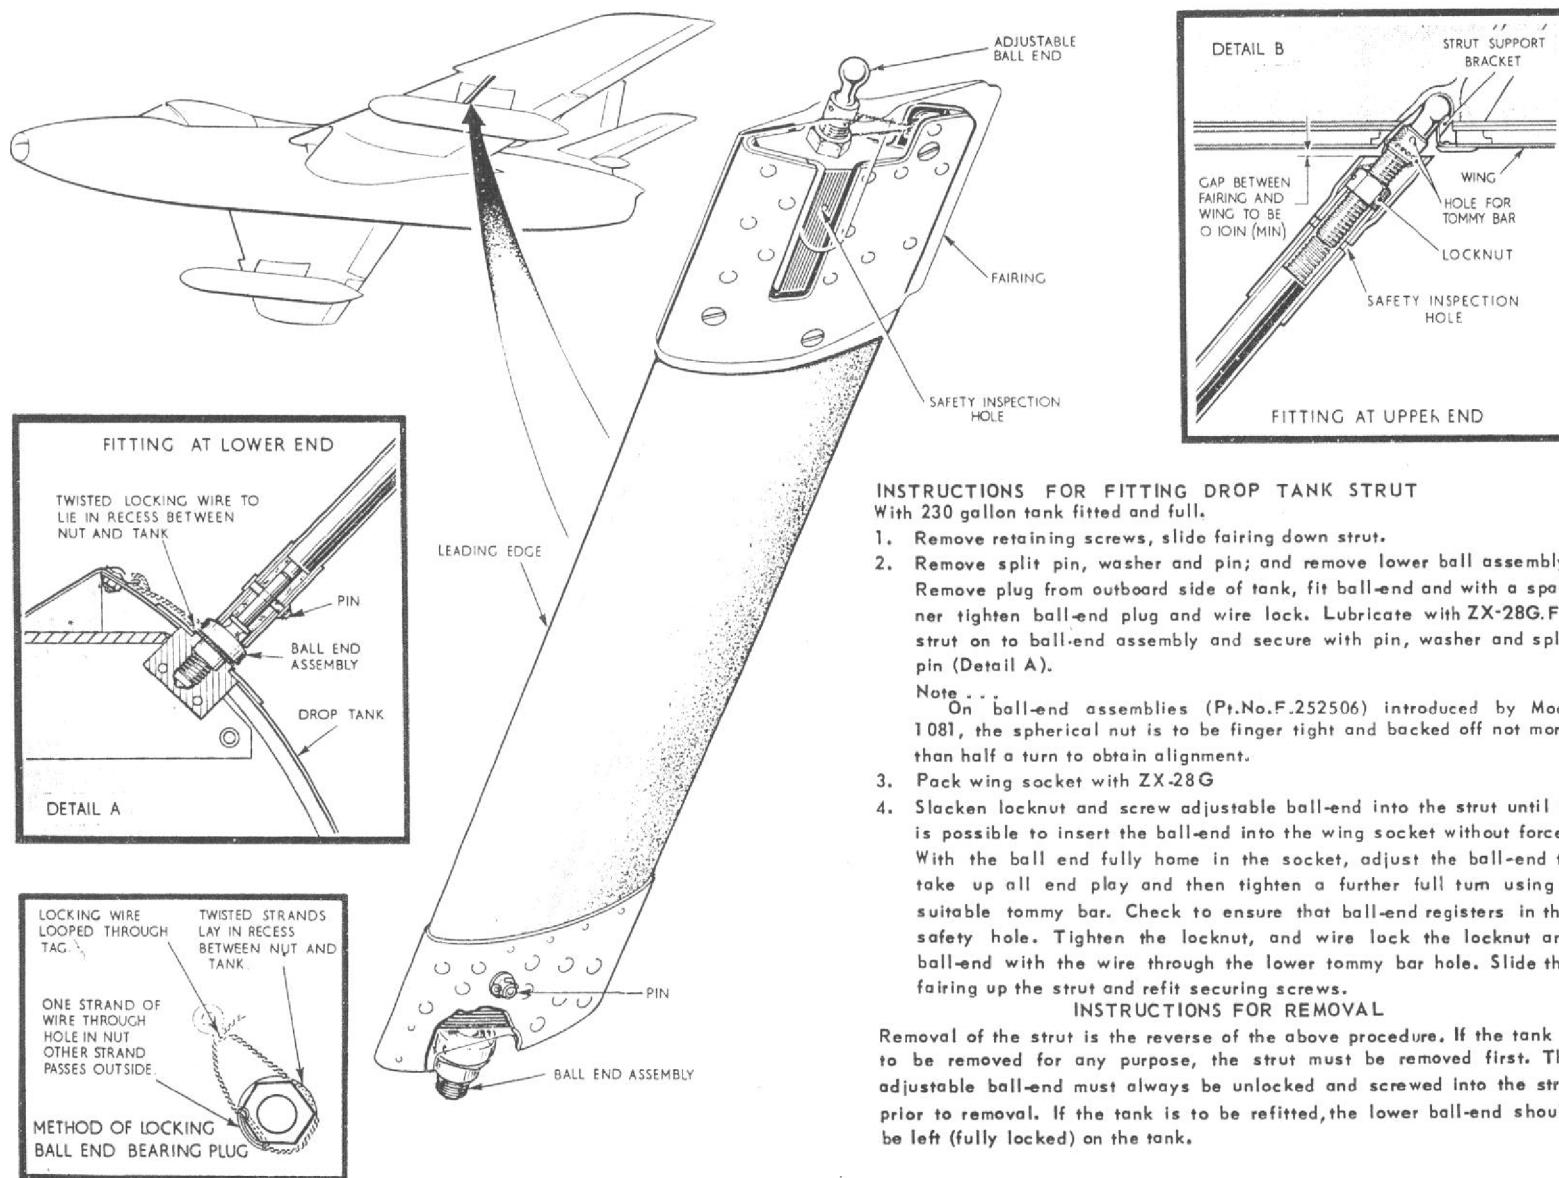

Fig.5 Fitting drop tank strut
- (7) By means of the crutching tool raise the tank until the fore and aft spigots (7) are engaged in the holes provided in the sole plate (11) of the pylon, and the tank adapters (6) are making contact with the fuel and air valves in the valve body (5). Check that the electrical cable from the tank to the plug (10) is not trapped between the tank and the sole plate.
- (8) Apply the final crutching load by using a torque wrench (Ref. 1 L./171) set to 95 ± 2 lb ft, attached to the adapter on the crutching tool.
- (9) Remove the torque wrench and crutching tool, connect socket (13) to the breech cap and replace the access panel in the wing.
- (10) Reconnect the safety break (4) and replace the rear door (3) on the pylon.
- (11) Fit the special bracing strut between the drop tank and the wing as described on fig. 5 after filling the drop tank with fuel.
- (12) Immediately before flight replace the armament safety break.